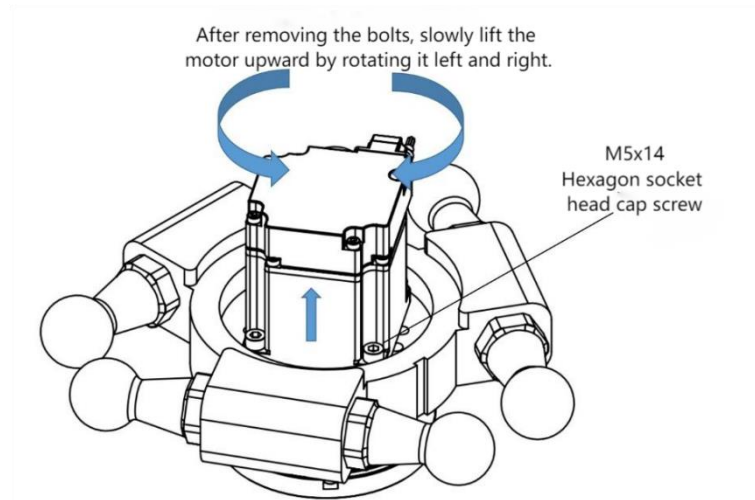

Figure 3-22 Motor fixing screw
Step 2 As shown in Figure 3-22, remove the four motor screws M5x14.